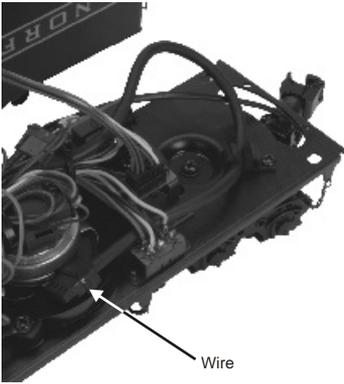

Figure 2. Coal Tender with Shell Removed
2. Upon removing the tender body, identify the wire harness, which should be secured inside the chassis near the rear of the Coal Tender. Refer to Figures 2 and 3 and follow how the wire harness is fed through the hole at the rear of the floor/chassis. Be sure not to bind or twist the harness during this process.
In order for the engine to perform correctly and quietly, it is important that the chassis be lubricated before operation. Lubrication should include all truck block bushings and pickup rollers to prevent them from squeaking. Use light household oil and follow the lubrication points marked “L” in Fig. 2 below.